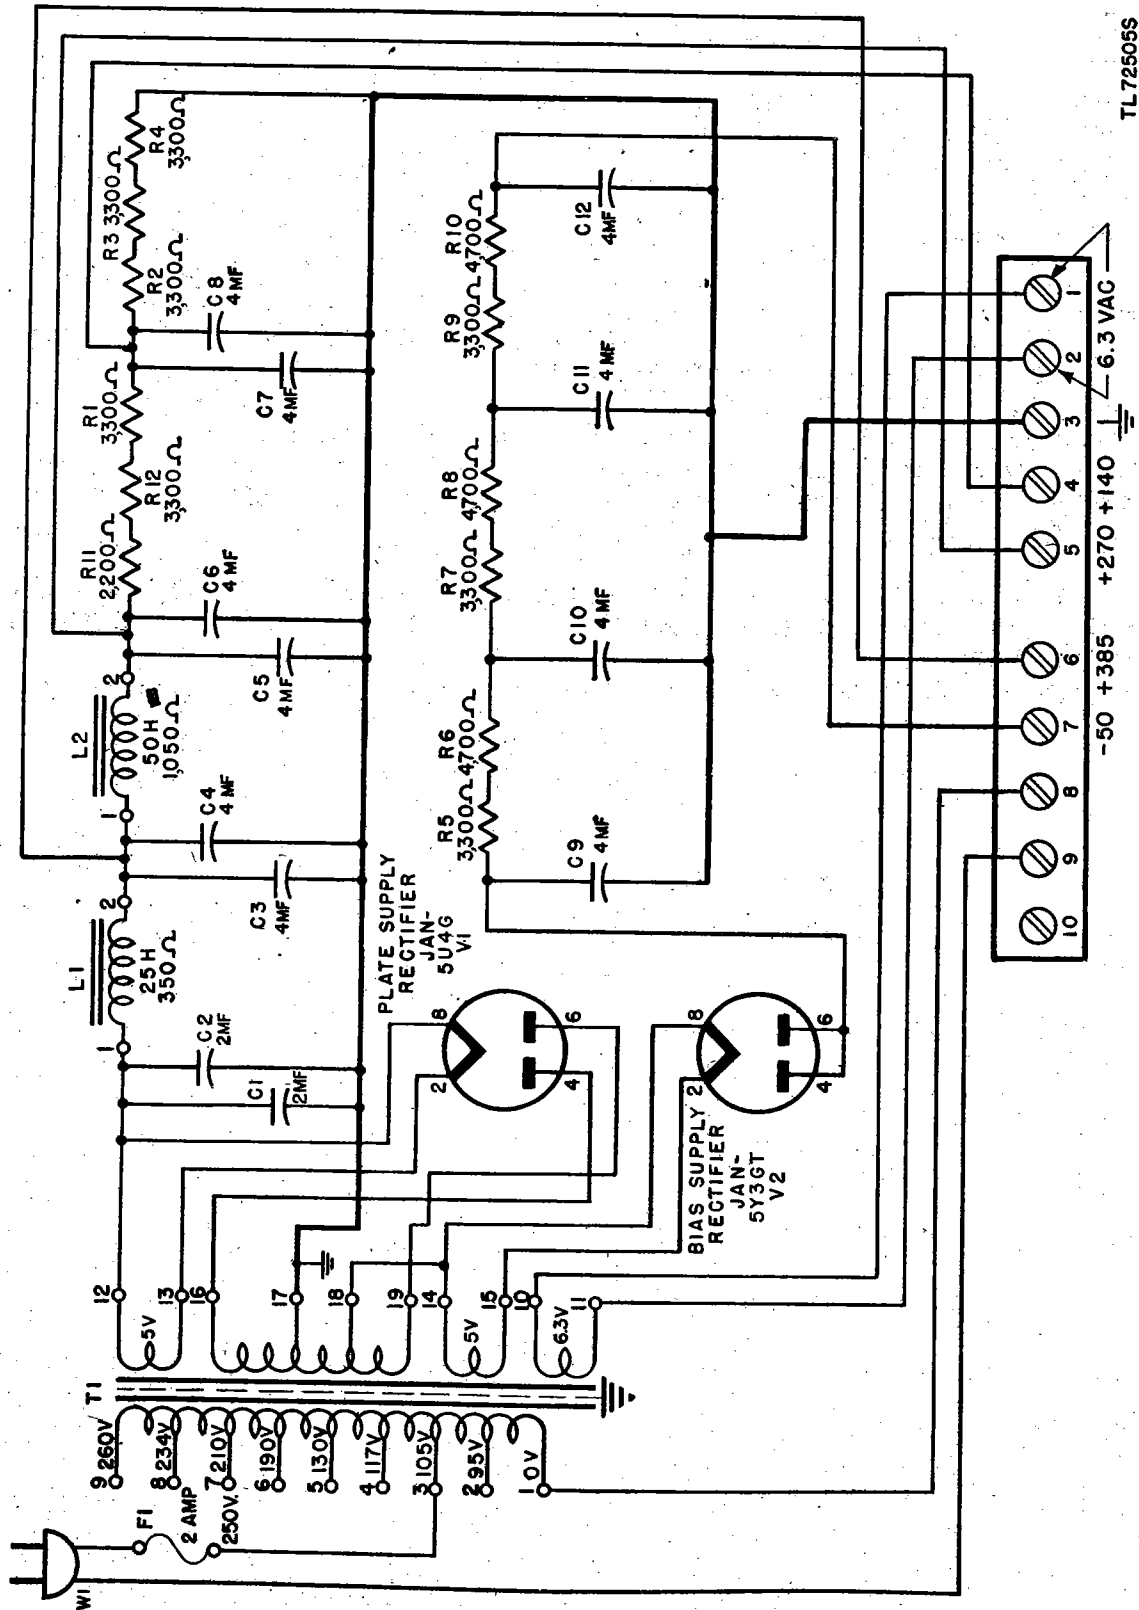

Figure 50.1 (Added.) *Power Supply Unit RA-74-D, schematic diagram.*
Power Supply Units RA-74-B, -C, RA-84-(*), and RA-94-A are electrically alike except for variations in power transformers T1, T2, and T3 (figs. 50, 51, and 52). The output of * * * input requirements vary. Power Supply Unit RA-74-D is electrically similar to Power Supply Units RA-74-B and RA-74-C except for the following: types of tubes used, d-c resistance of L2, number and values of resistors, value of plate supply filter input capacitor, values of bias filter capacitors, reference symbols, and transformer wiring connections (fig. 50.1). Also, the physical location of the resistors and capacitors in Power Supply Unit RA-74-D with serial numbers 1 through 390, Order No. 12618-Phila-47, is not the same as their location in Power Supply Unit RA-74-D with serial numbers 391 through 791, Order No. 6036-Phila-48.
a. Power transformer T1 (fig. 50.1) is connected to the power source by line cord W1 and is fused by 2-ampere, 250-volt fuse F1. Terminals 8 and 9 of terminal strip E1 are connected when the receiver ON-OFF switch is closed, thus completing the primary circuit of the transformer. The average power consumed is 180 watts.